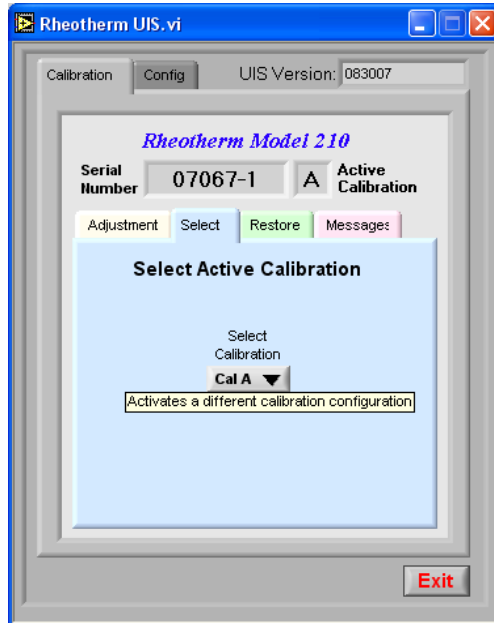

Figure 9 - Calibration Select Form
- i. Click on the [Calibration][Select] tab (Figure 9) to choose from one of four calibration channels. Unless specifically ordered otherwise, a typical instrument will have identical calibration parameters loaded into the four calibration channels annotated A, B, C or D. They may be individually changed as needed. All changes are stored in non-volatile memory inside the instrument itself.